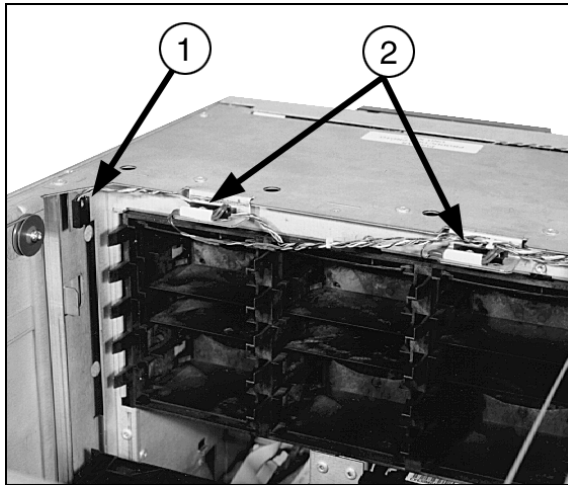

Figure 5-18. Path-Clear Sensors and Home Sensor Mounting
2. Remove the T-15 screw on the home sensor. See Figure 5-18 (1).
3. Remove the T-15 screw holding each path-clear sensor. See Figure 5-18(2).